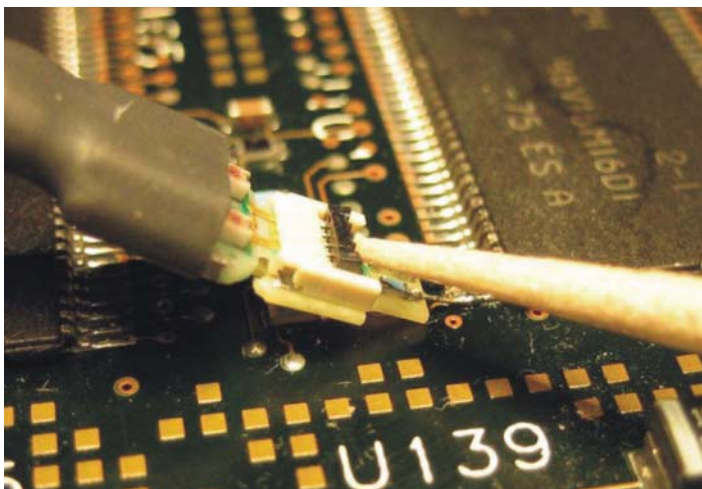
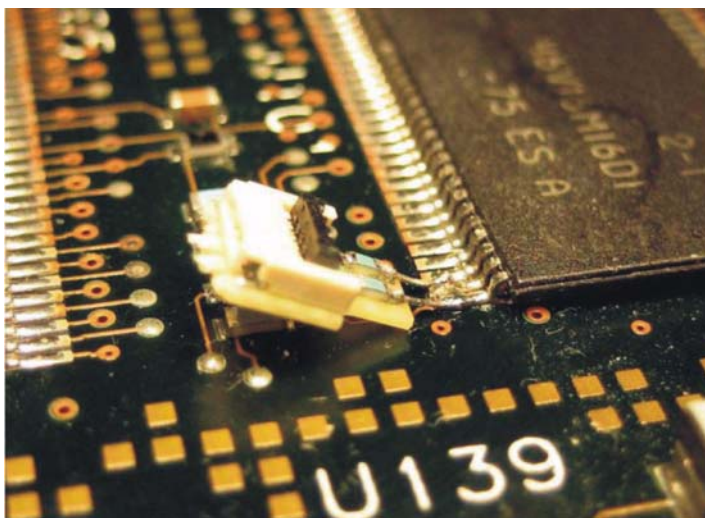

Figure 3-21 Using non-conductive tool to open the ZIF connector
Figure 3-22 ZIF Tip left behind in DUT with ZIF latch open
- 5 Remove ZIF probe head and leave ZIF tip behind for future connection. It is best to use a non-conductive, pointed object such as a tooth pick or plastic tool. Hold on the heat-shrink part of the probe head to support the ZIF tip while releasing the latch. Figure 3-21 shows a toothpick releasing the latch on the ZIF connector and Figure 3-22 shows the ZIF tip left behind in the DUT with the latch open, ready for future connections.